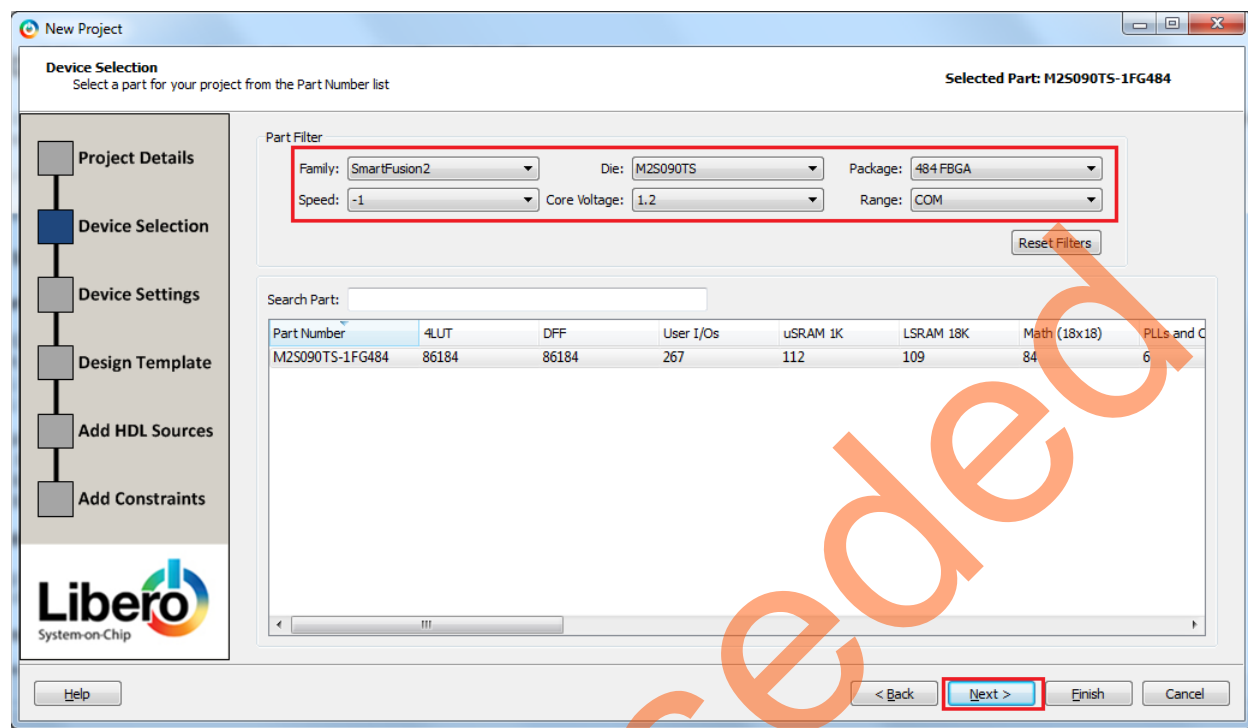

Figure 4 • Device Selection Window
4. Click **Next**. In the **Device Selection** window, select the information displayed in Figure 4. In the Part Filter (select the following values using the drop-down list)